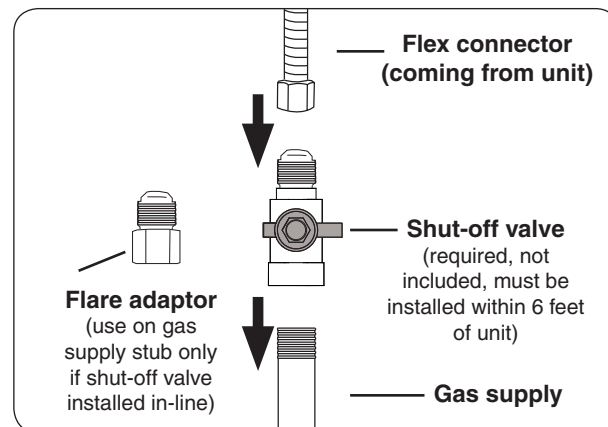

Fig. 15-3 Connecting to a gas line
- Connect the flex connector to the shut-off valve (see Fig. 15-3). Tighten securely.***If shut-off valve is installed in-line:***
- Install the supplied flare adapter to the gas supply using a pipe joint compound resistant to all gasses (see Fig. 15-3). Tighten securely.
- Connect the flex connector to the flare adapter (see Fig. 15-3). Tighten securely.